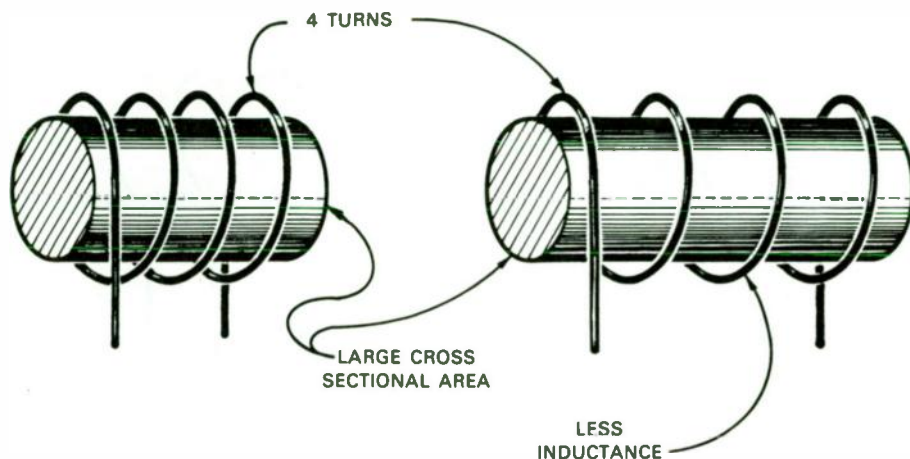

Figure 13 — Less inductance when turns are wider spaced.
- Figure 13 shows two coils of a